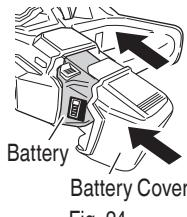

Fig. 24
- (2) Attach battery and battery cover (Fig. 24)
- (10) Attach battery and battery cover (Fig. 24)
- (4) Attach the battery and battery cover (Fig. 24)